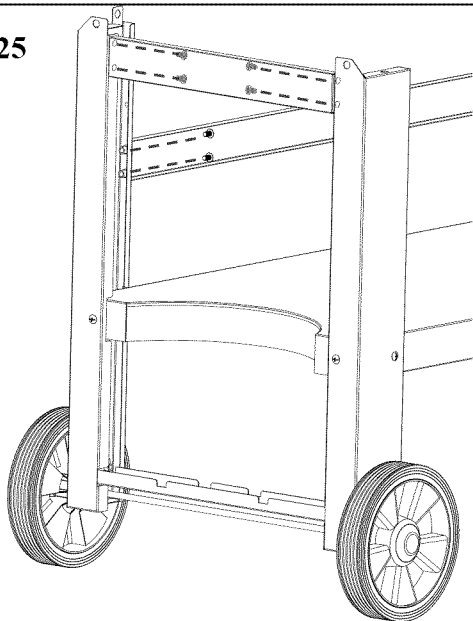

Fig. 25A
*Locate:* Cart Rear Bracket, (2) Cart Side Top Brackets, (12) M6x12 bolts
*Procedure:* Attach Cart Rear Bracket and (2) Cart Side Top Brackets to four Legs using (12) M6x12 bolts as shown as Fig. 25A and Fig. 25B.